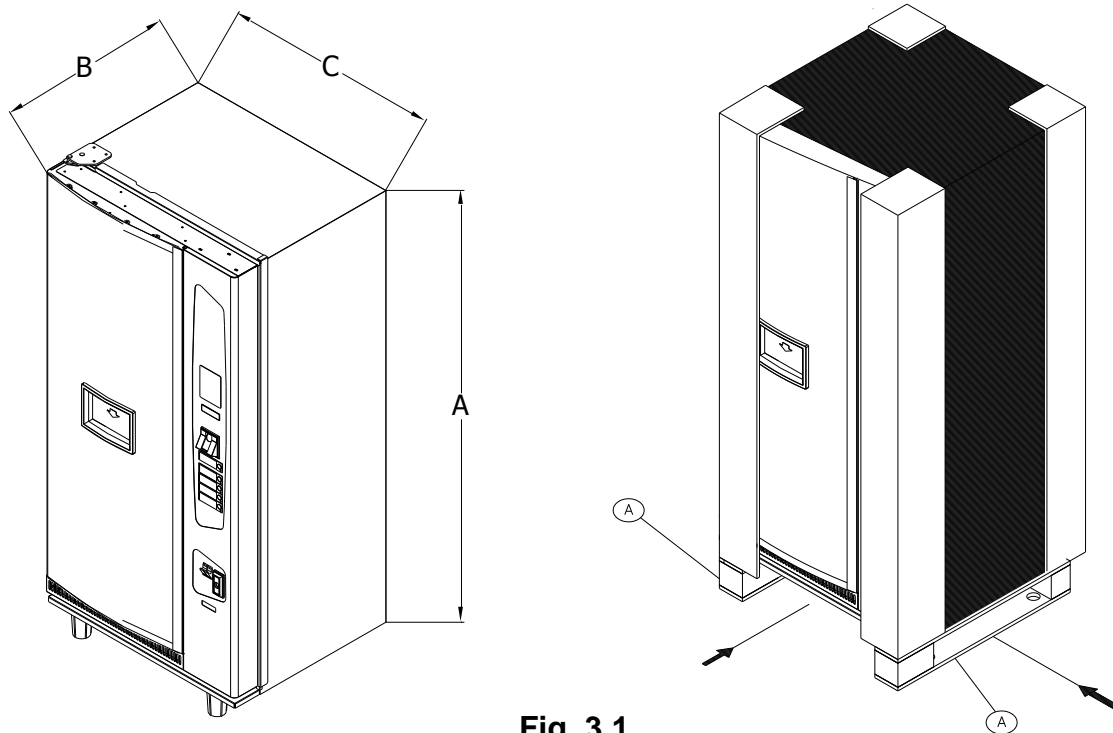

Fig. 3.1
- Use a transpallet/lift truck with minimum carrying capacity of 400Kg. The wooden bases (A) allow for gripping of the 4 sides of the vending machine (fig. 3.1).